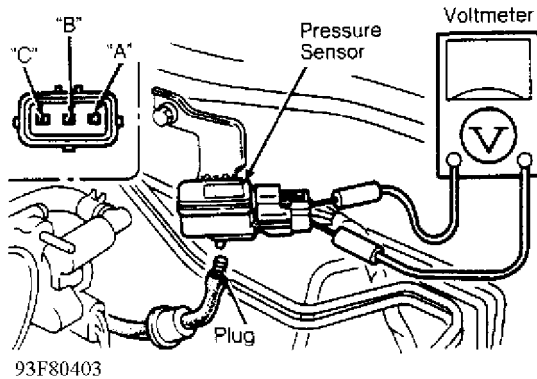

Fig. 21: Testing BARO Sensor (RX7)
2) With engine at idle, voltmeter should read 1.3-1.6 volts. Disconnect hose from BARO sensor and plug. See Fig. 21. Voltmeter should read 2.38-2.78 volts.